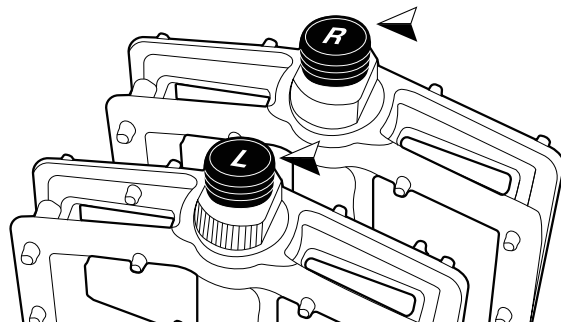

Figure 13. Marked "R" (Right) and "L" (Left)
2. Tighten the right pedal (marked "R" on the pedal, see *Figure 13*) in a clockwise direction on the crank on the drive side.
3. Screw the left pedal (with marked "L" on it and with grooves see *Figure 13*) counterclockwise onto the left crank.